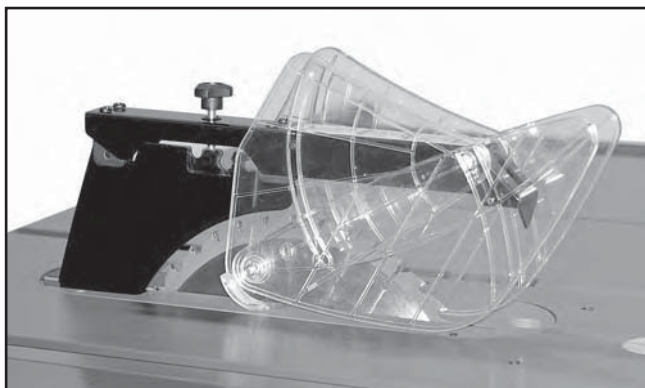

Figure 52. Guard installed without pawls.
3. Re-install the blade guard onto the spreader, making sure the front and back pins on the blade guard slide all the way into the spreader slots (see **Figure 52**), then tighten the top knob to secure the guard.